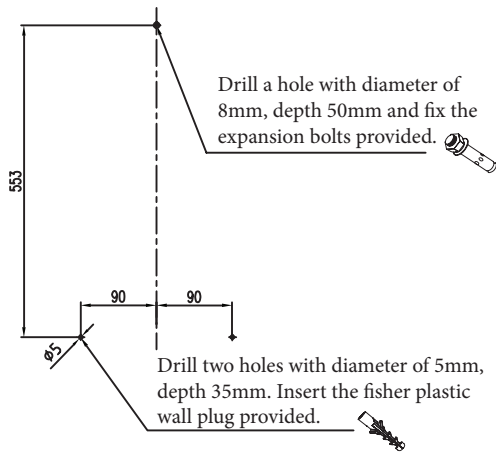

Fig 2
- Drill the top and bottom holes for the gas water heater according to the measurement as shown on Fig 2.